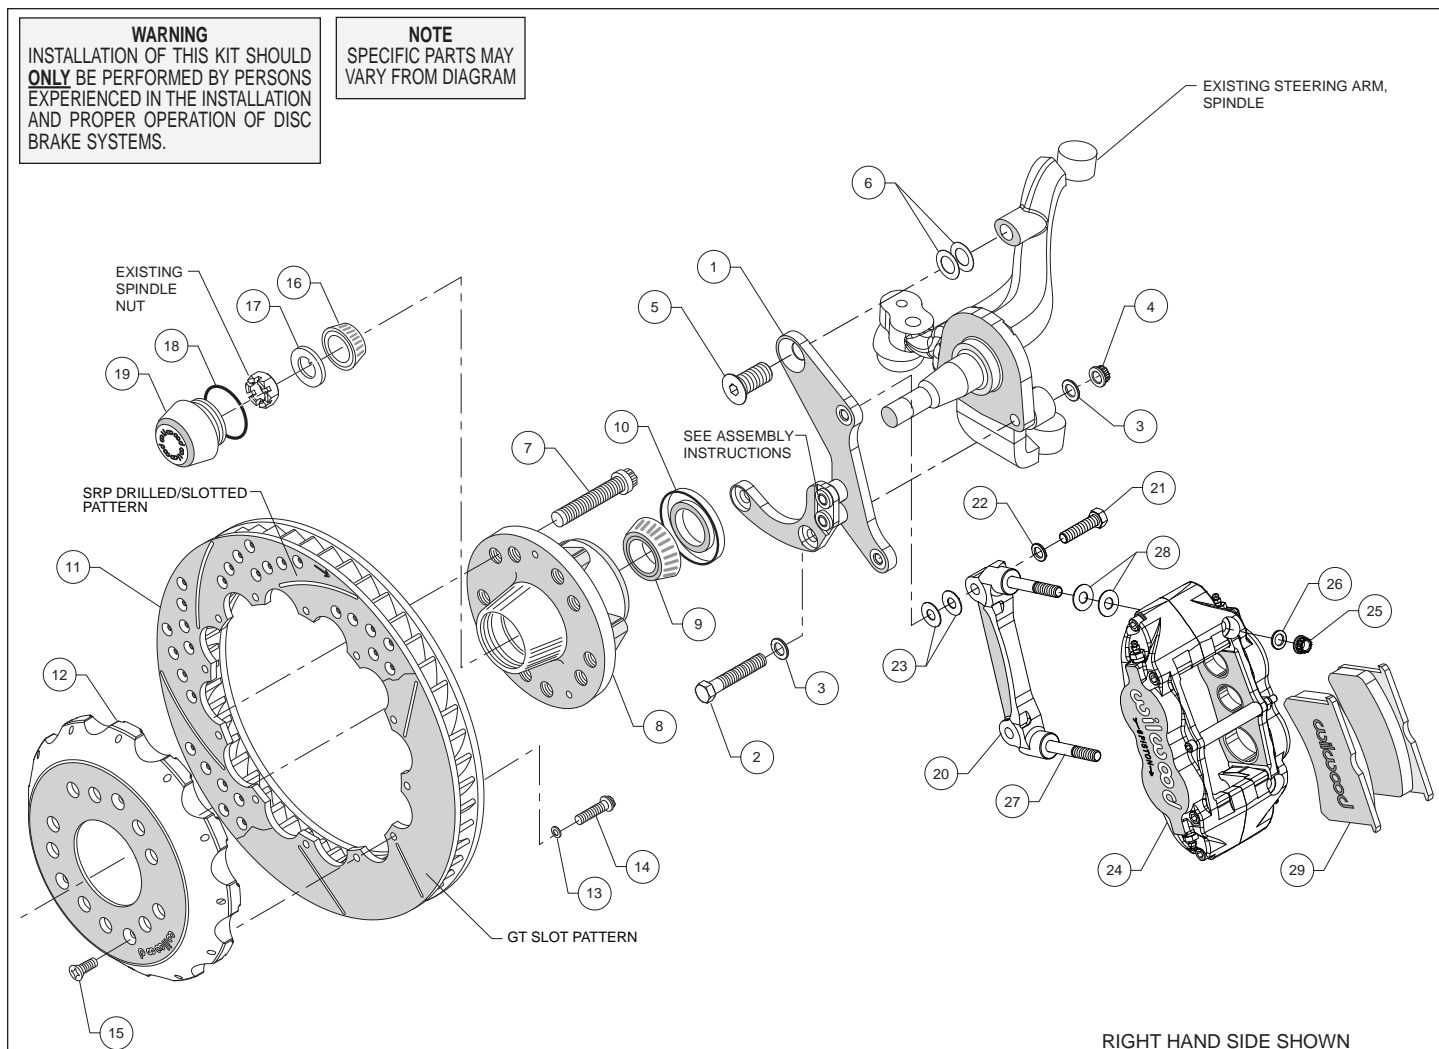
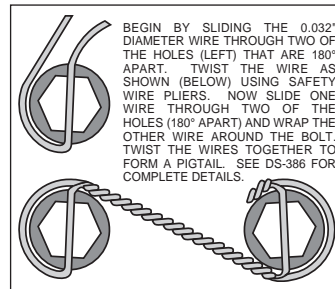
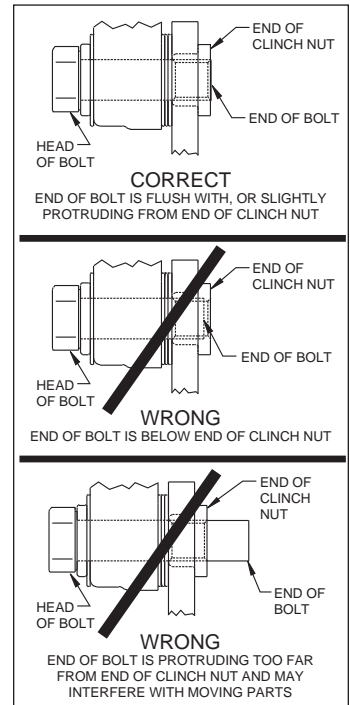

Figure 1. Typical Installation Configuration
Figure 3. Safety Wire Diagram
Figure 4. Clinch Nut Engagement Diagram
Assembly Instructions (numbers in parenthesis refer to the parts list and Figure 1 on the preceding pages): **CAUTION:** All mounting bolts must fully engage clinch nuts. Be sure to check that all bolts are either flush or protruding through flanged side of clinch nut after shimming, Figure 4.
- The spindle bracket (1) has been assembled at the factory for alignment purposes. Loosen the two bolts that secure the brackets together so that the bolts are hand tight only. This will enable the bracket assembly to be adjusted to accommodate various spindle tolerances during assembly. Align bracket with the two lower holes on the spindle face and attach using bolts (2), washers (3), and secure using nuts (4), as shown in Figure 1 and Photo 1. Install bolt (5) through top of bracket while placing shims (6) between bracket and spindle, Figure 1. Initially use two .024" thick shims (6) on the top bolt between the bracket and upright. Temporarily tighten the mounting bolts. Ensure that the flanged heads of the clinch nuts in the bracket are facing outboard, Photo 1. **NOTE:** The bracket must fit squarely against the mounting points on the spindle. Inspect for interference from casting irregularities, machining ridges, burrs, etc.
- Check that the bracket is aligned parallel to the rotor by assembling and installing the hub/rotor per the step below. If not, adjust by adding or subtracting shims (6) between the spindle and bracket, Figure 1.
- Install wheel studs (7) into the hub (8), Photo 2. Torque to 77 ft-lb. **NOTE:** There are two five lug patterns in the hub (5 x 4.50 and 5 x 4.75). Ensure the correct hub stud pattern is being used to fit the wheel application.
- Pack the large inner bearing cone (9) with high temperature disc brake bearing grease (available from your local auto parts store) and install into the backside of the hub (8), Photo 3.
- Install the grease seal (10) by pressing into the backside of the hub (8), flush with the end of the hub, Photo 3.
- Orient the rotor (11) and the hat (12) as shown in Figure 1 and Photo 4. Attach rotor to hat using bolts (14) and washers (13). Using an alternating sequence, apply red *Loctite*® 271 to the threads, and torque to 155 **in-lbs**. For an added measure of security, the bolts may be safety wired using standard 0.032 inch diameter stainless steel safety wire as shown in Figure 3. Refer to Wilwood's data sheet DS-386 (available at www.wilwood.com/Pdf/DataSheets/ds386.pdf) for complete safety wire installation instructions.
- Slide the hat/rotor assembly (11/12) onto the hub (8) taking care to align the small countersunk holes in the hat (12) with the small threaded holes in the hub. **NOTE:** The hat must fit flush against the hub face or excessive rotor run out may result. Install three flat head screws (15) through the small holes in the hat, Photo 6, and torque to 85 **in-lb**.
- The caliper mount bracket (20) should initially be installed with clean, dry threads on the mounting bolts. Orient the bracket as shown in Figure 1 and Photo 7, and install using bolts (21) and washers (22). Initially place two .035" thick shims (23) on each bolt between the bracket and the spindle bracket (1), Figure 1. Temporarily tighten the mounting bolts. Later, after the caliper alignment has been checked, the mount bolts will be secured using red *Loctite*® 271.
- **NOTE:** This kit contains distinct right and left hand calipers that must be mounted in a specific direction, as described below. Lubricate the caliper mounting studs (27) with lightweight oil. Initially place two .035" thick shims (28) on each stud between the caliper and the bracket, as shown in Figure 1 and Photo 8. Mount the caliper (24) onto the bracket (27) using lock nuts (25) and washers (26), Figure 1. Ensure that the caliper is mounted so the largest pistons are at the rotor exit end of the caliper, in relation to the direction of rotor rotation. Temporarily tighten the lock nuts and view the rotor through the top opening of the caliper. The rotor should be centered in the caliper, Photo 9. If not, adjust by adding or subtracting shims (23) between the spindle bracket (1) and the caliper bracket. Always use the same amount of shims on each of the two mounting bolts. **NOTE:** The end of each bolt must be flush with or slightly protruding from the head of the clinch nut, as shown in Figure 4. If necessary place spare shims between washer (22) and caliper mounting bracket to achieve the proper clinch nut engagement. Once the caliper alignment and clinch nut engagement are correct, remove the bolts one at a time, apply red *Loctite*® 271 to the threads, and torque to 40 ft-lb.